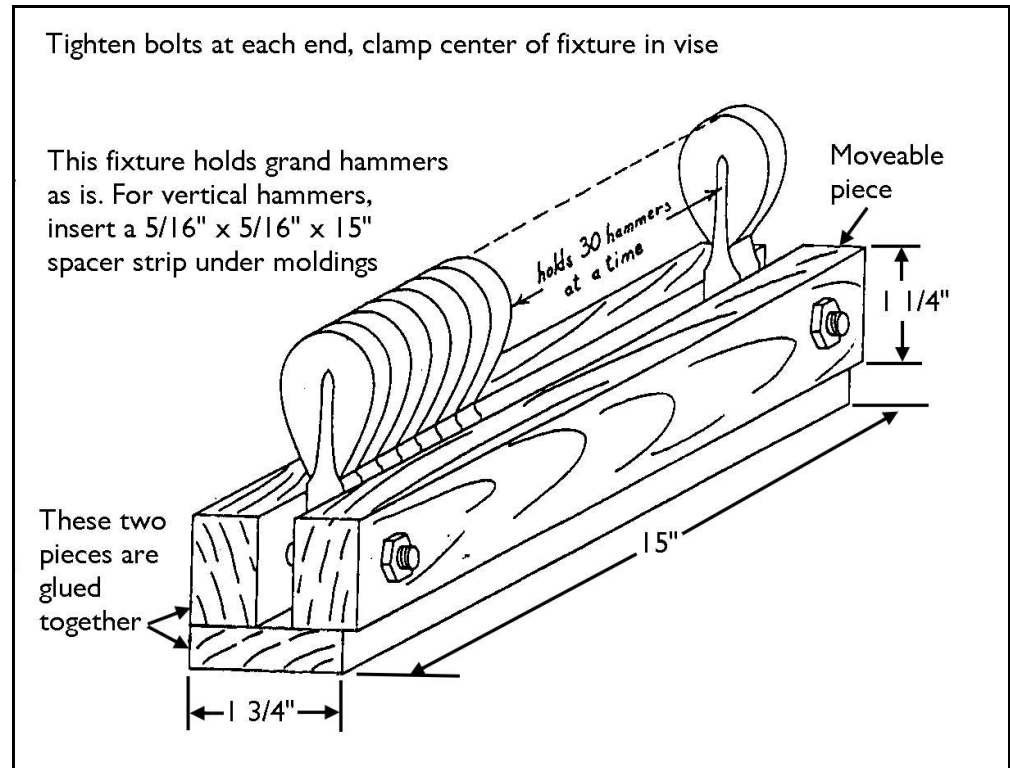

Figure 4: Hammer pre-filing & voicing fixture
2. Pre-filing/needling: If you are familiar with the replacement hammers and know they will need a certain amount of needling or filing, it is usually simpler (and easier on action centers) to do your basic rough voicing and shaping before installing the hammers. The fixture in figure 4 allows you to clamp one section at a time in a vise; they can be needled and filed easily and quickly as though they were one long hammer. Ironing the hammers while still in the fixture gives clean square edges, making it easier to judge alignment when gluing them on.